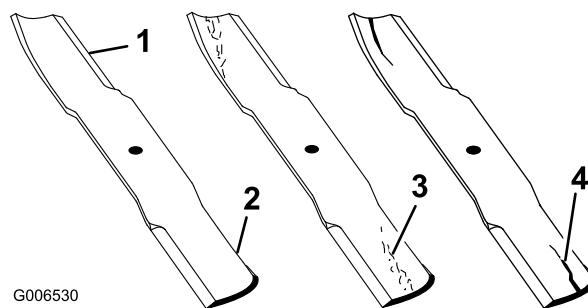

Figure 43
1. Inspect the cutting edges (Figure 43). If the edges are not sharp or have nicks, remove and sharpen the blades; refer to Sharpening the Blades.
2. Inspect the blades, especially the curved area (Figure 43). If you notice any damage, wear, or a slot forming in this area (item 3 or 4 in Figure 43), immediately install a new blade.